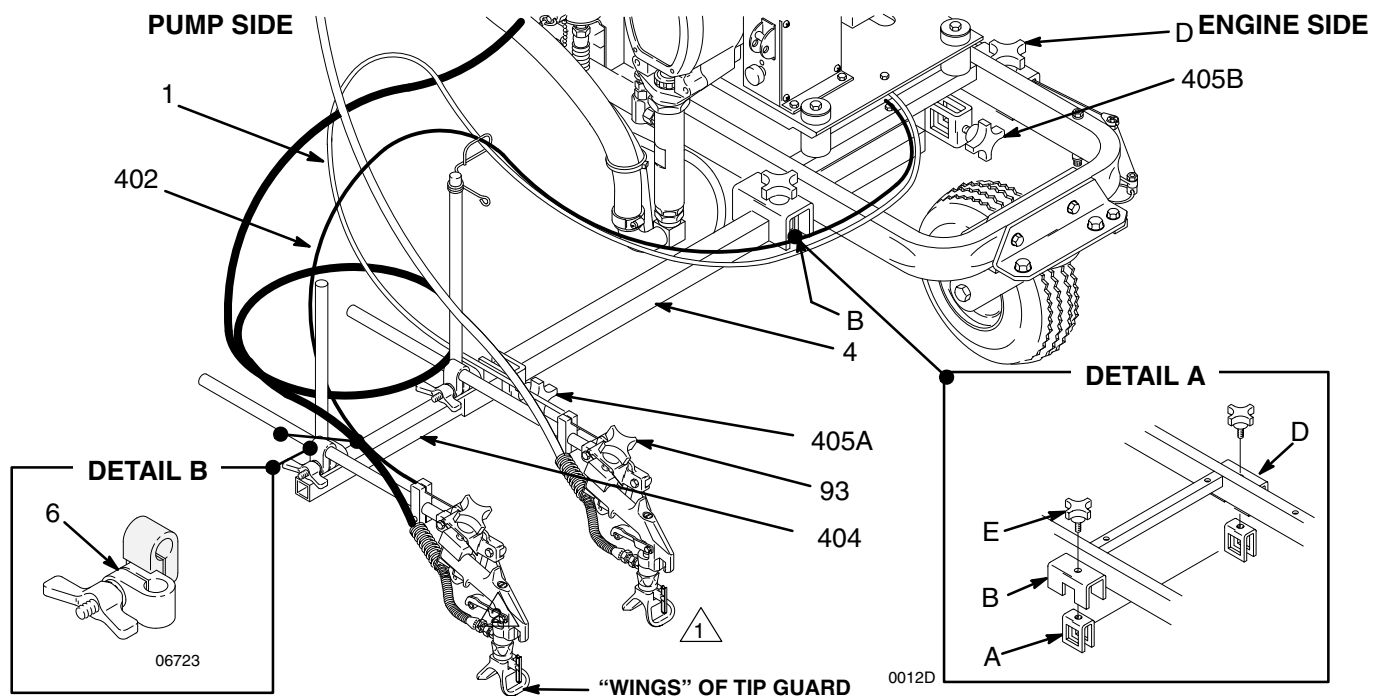

Fig. 15
2. Be sure the RAC IV Tip Guard is always parallel to the ground and the "wings" of the spray tip guard face the front and back of the unit, as shown in Fig. 15.
NOTE: To prevent premature arm clamp (6) wear, make sure that the half of the clamp holding the gun support arm is supported by the notch in its side. See Fig. 15 DETAIL B.
2. Loosen the gun holder knobs (93) and remove the gun. Lay the guns out of the way.
3. Remove the knobs (E) on both carriage clamps (B,D); the carriage bar (4) and extension clamps (A) will drop down. See Fig. 15 DETAIL A.
5. Position the carriage bar below the carriage clamps (B,D). Align the holes in the top of the extension clamps (A) with the holes in the carriage bar clamps and install the knobs (E). See Fig. 15 DETAIL A.
6. Loosen the post/arm clamps (6) and rotate the guns forward. Retighten the clamps.